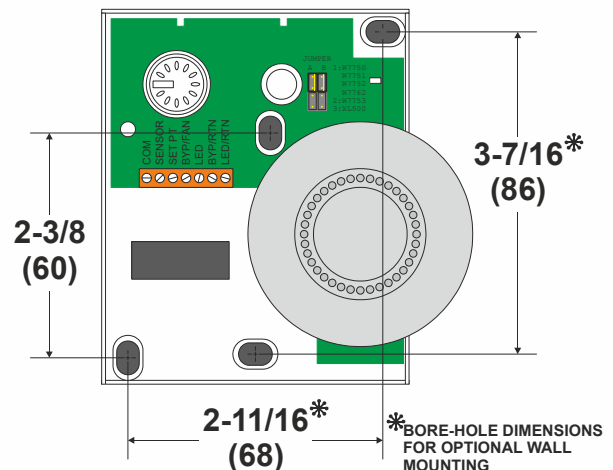
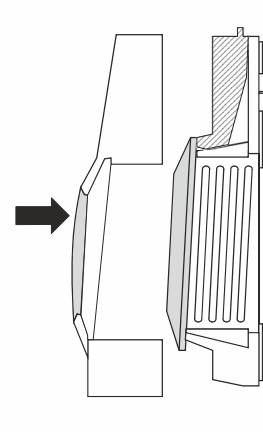

Fig. 2. Bore-holes for T7460 wall modules in in. (mm)
Fig. 5. Mounting cover of T7460 wall modules
The wall modules can be mounted on a 60-mm wall outlet box using No. 6 (3.5-mm) screws or on a wall (see Fig. 2 and Fig. 5). When mounting directly on a wall, use the type of screws appropriate for the wall material.
3. a) Mount the wall module onto the wall outlet box, or b) bore wall holes as is specified in Fig. 2 and mount the wall module with appropriate screws.
6. Remount the cover as depicted in Fig. 5 and make sure that the tab on the underside engages.